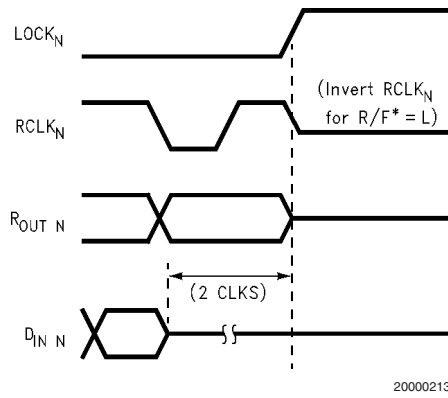

FIGURE 5. Unlock
**Note 10:** RCLK Active indicates that the RCLK will be running if the Deserializer is locked. The timing of RCLK [0:5] with respect to Rout [0:5][0:9] is determined by RCLK\_R/F Figure 5